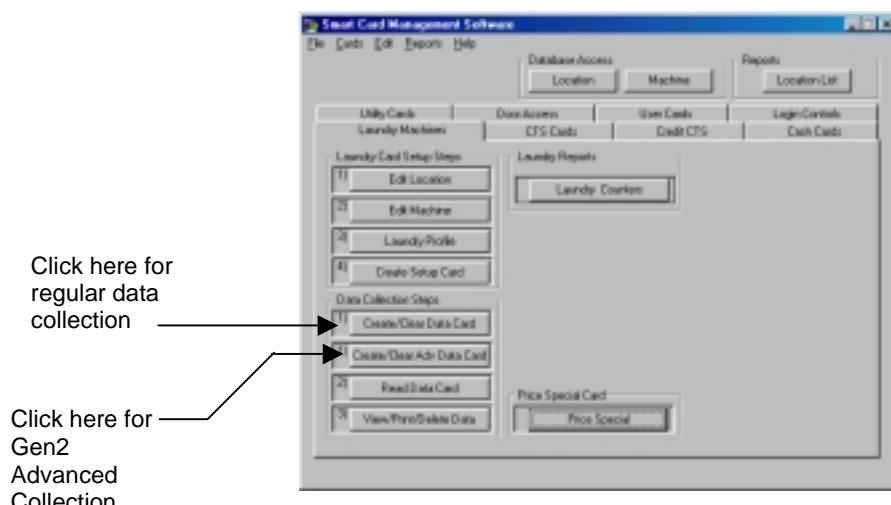

Figure 8.33 Creating a Laundry Machine Data Collection Card
2. In the Laundry Machines tab, click one of the following (Figure 8.33):